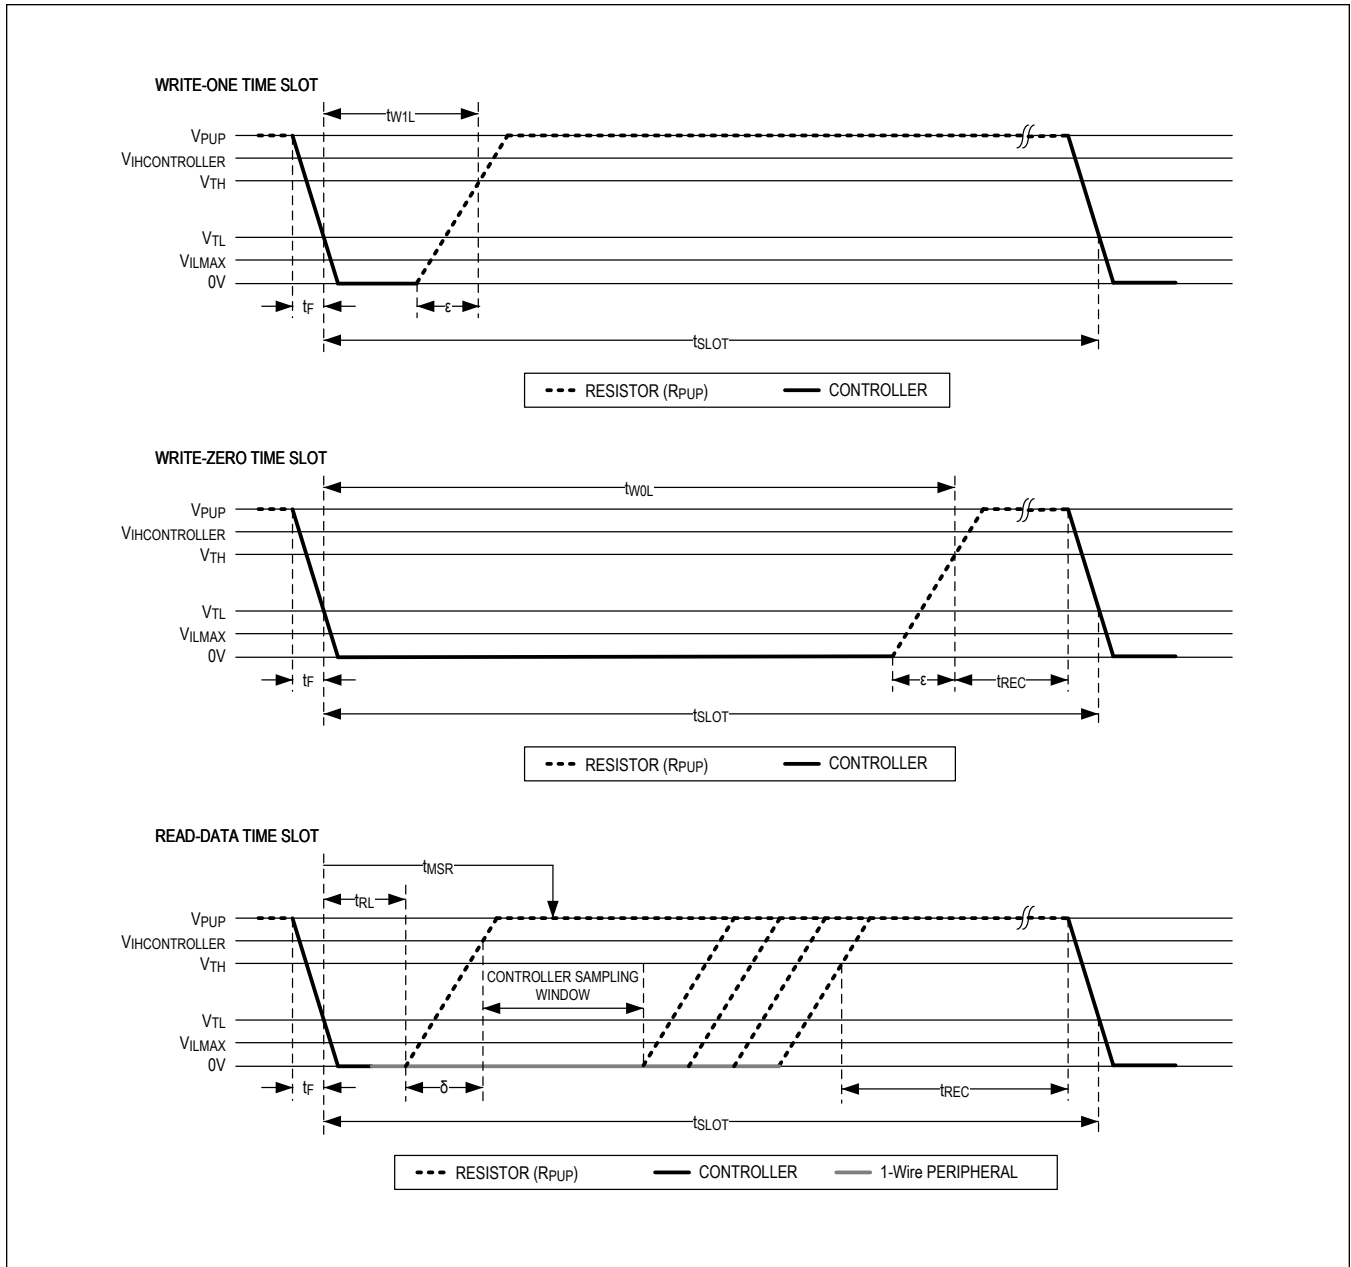

Figure 4. Read/Write Timing Diagrams
Note 13: System requirement. ϵ in Figure 4 represents the time required for the pullup circuitry to pull the voltage on IO up from V_{IL} to V_{TH} . The actual maximum duration for the controller to pull the line low is $t_{\text{W1LMAX}} + t_{\text{F}} - \epsilon$ and $t_{\text{W0LMAX}} + t_{\text{F}} - \epsilon$, respectively.
- Note 14:** System requirement. δ in Figure 4 represents the time required for the pullup circuitry to pull the voltage on IO up from V_{IL} to the input-high threshold of the bus controller. The actual maximum duration for the controller to pull the line low is $t_{RLMAX} + t_F$.
Data communication with the DS28E50 takes place in time slots that carry a single bit each. Write time slots transport data from bus controller to peripheral. Read time slots transfer data from peripheral to controller. Figure 4 illustrates the definitions of the write and read time slots. All communication begins with the controller pulling the data line low. As the voltage on the 1-Wire line falls below the threshold V_{TL} , the DS28E50 starts its internal timing generator that determines when the data line is sampled during a write time slot and how long data is valid during a read time slot.